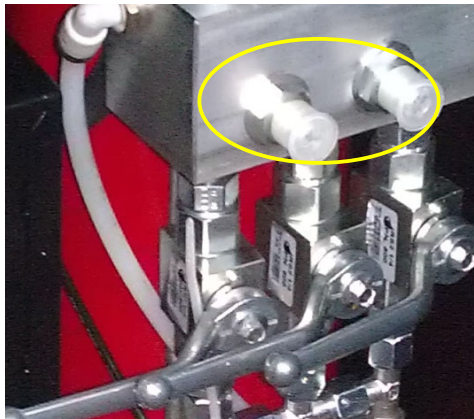

Fig. 6 – Hydraulic Connections
- 18) Connect the hydraulic lines to the block connections inside the control unit, **Fig. 6**.